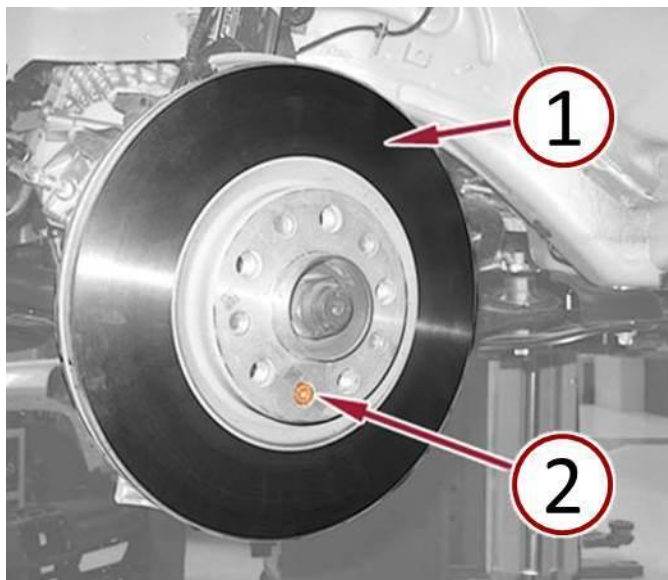

Fig. 4 Remove Brake Rotor
10. Remove the brake rotor retaining bolt (2) (Fig. 4).
11. Remove the brake rotor (1) (Fig. 4).